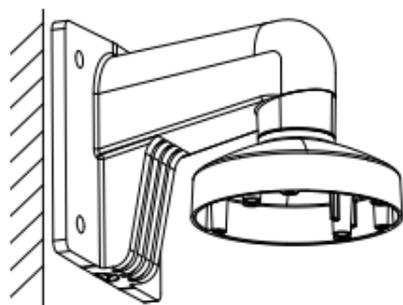

Figure 2-13 Install the Pendent Cap
1. Fix the pendent cap bracket on the wall, as shown in Figure 2-13.